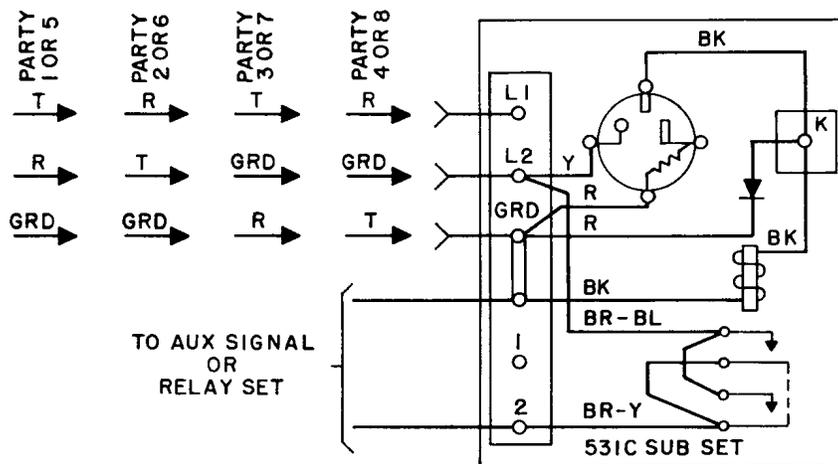

Fig. 7 – Connections for Auxiliary Signals on Party Lines
2.06 Auxiliary signals may be installed on 4-party full selective or 8-party semiselective lines by the use of a 531C or 687B subscriber set connected as shown in Fig. 7.